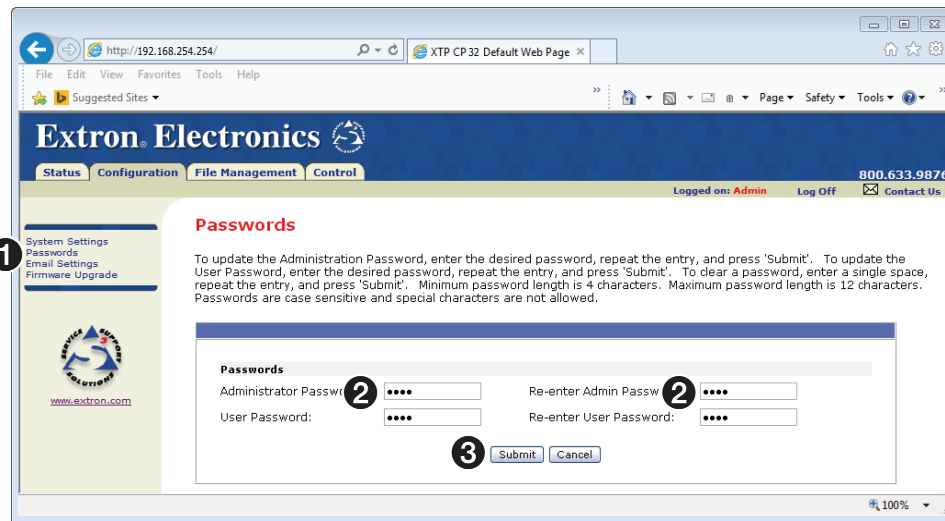

Figure 31. Passwords Page
Access the Passwords page (see figure 31) by clicking the **Passwords** link (1) on the left of the System Settings, Email Settings, or Firmware Upgrade page.
The fields on the Passwords page are for entering and verifying administrator and user passwords. Passwords are case sensitive and are limited to as many as 12 upper-case and lower-case alphanumeric characters. Each password must be entered twice; once in the **Password** field and then again in the **Re-enter Password** field (see figure 31, 2). Characters in these fields are masked by asterisks (*****). If you do not want to password protect an access level, leave the **Password** field and the **Re-enter Password** field blank. After entering the password in both fields, click the **Submit** button (3).
1. Replace any existing password by entering a single space character in the **Password** and **Re-enter Password** fields (see figure 31, 2).
2. Click the **Submit** button (3).